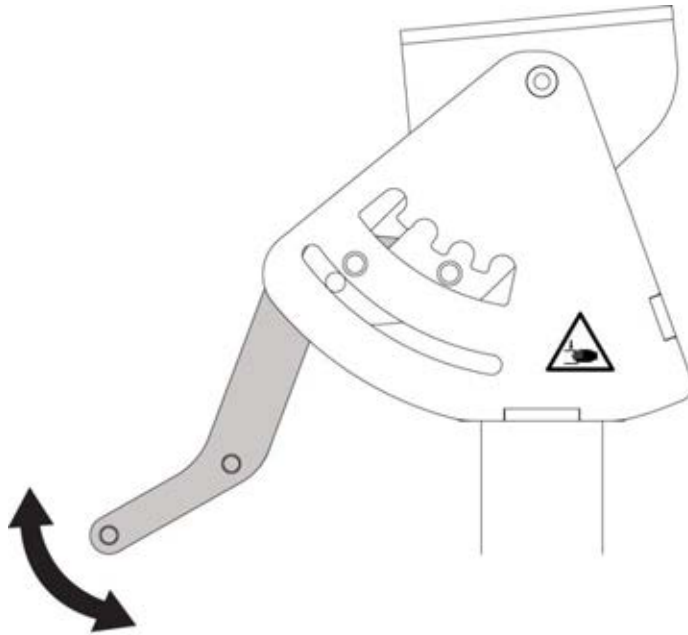

Figure 8 Release the Dispenser Head Angle Adjuster Handle
3. Release the **Dispenser Head Angle Adjuster Handle** when the preferred angle is reached (refer to Figure 8).